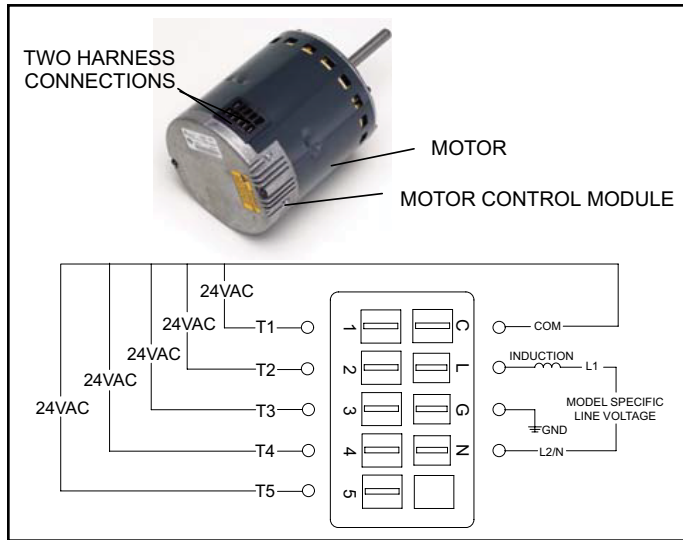

Figure 12. Unplug the Two Harness Connection
3. Unplug the two harnesses from the motor control module. See Figure 12.